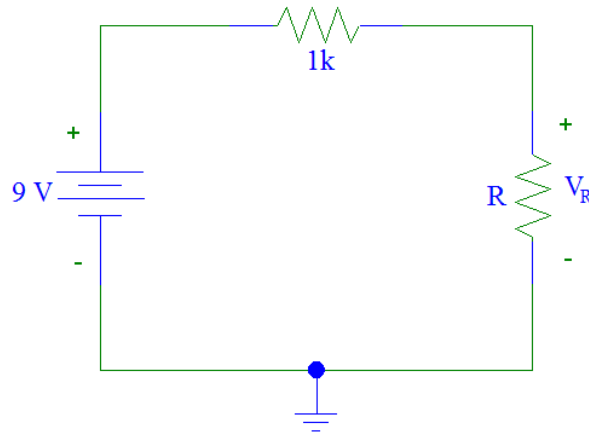

Figure 7 – Circuit for the voltmeter.
- Build the circuit in Fig. 7. For $R = 330 \Omega$, 2.2 k Ω , and 18 k Ω , measure the voltage V_R with your constructed voltmeter.